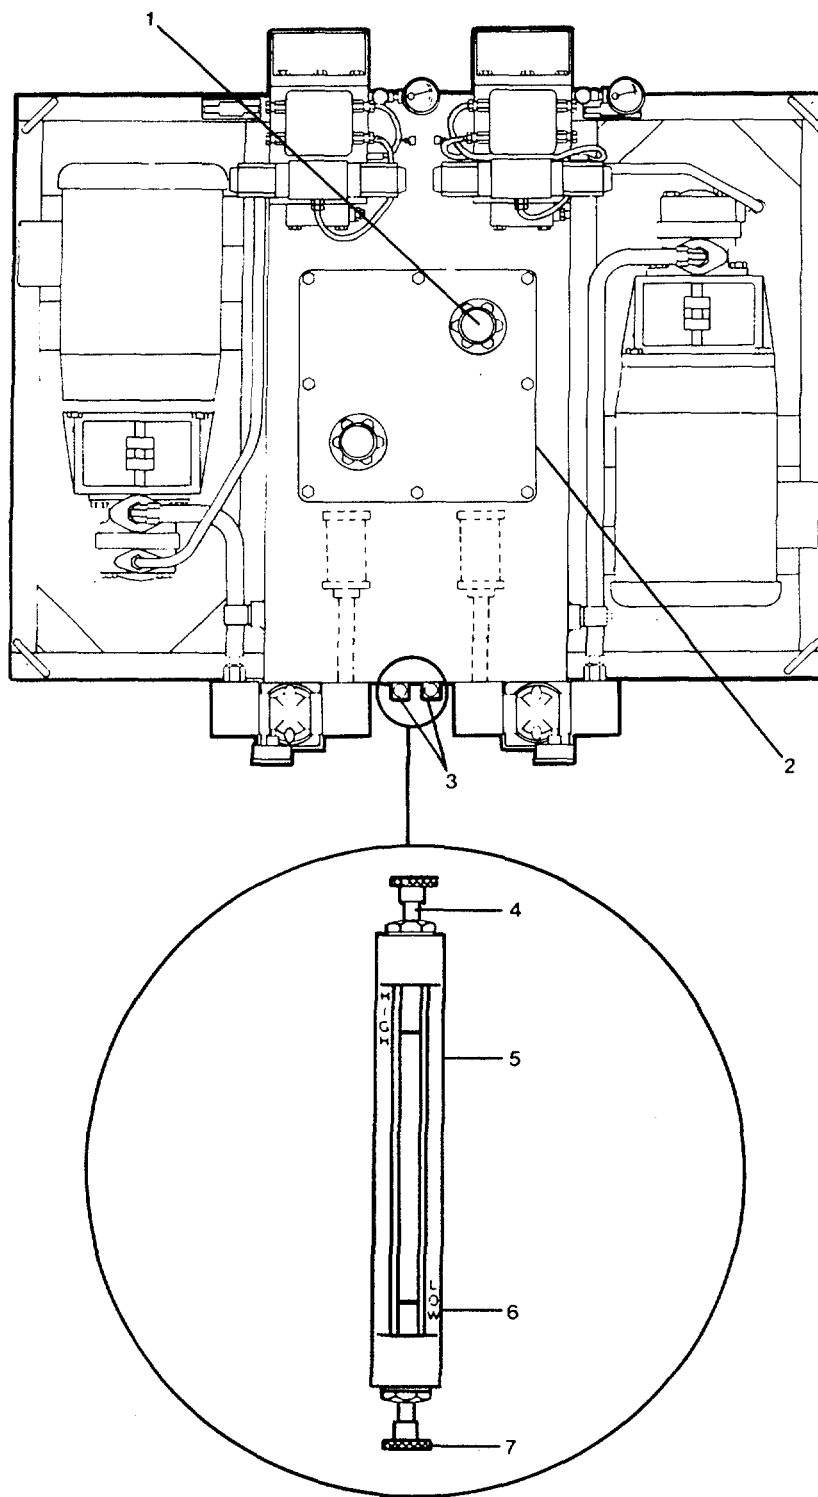
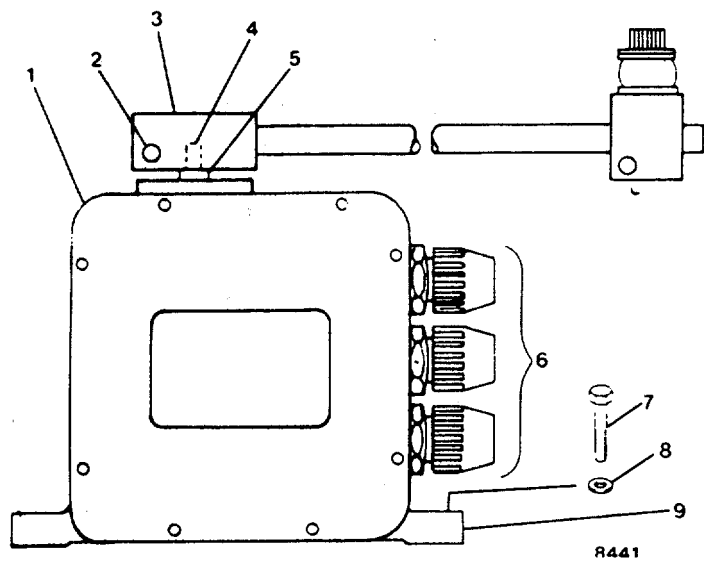

FIGURE 2-1. Reservoir Sight Gauge.
FIGURE 2-2. Followup Unit.
**2-10. Service Steering Gear System. (FIGURE 2-1)**
- (1) Check that hydraulic oil is clear and free of water or other contamination.
- (2) Check the pullout level indicator. gauge (3) on the side of the pumpset reservoir. See FIGURE 2-1.
- (3) Any unusual heating of the oil should be checked. After a while, oil that is too hot will reduce the efficiency and cause o-rings and other seals to fall apart.
- c. Fill. Remove filler cap (1, FIGURE 2-1) from hydraulic reservoir cover (2, FIGURE 2-1). Fill main reservoir and header tank with clean, filtered hydraulic fluid. See TM 55-1905-223-10.
- (1) Restore power to pumpsets.
- (2) Operate each vane pump, stroking cylinders several times back and forth with each pump. While stroking, unscrew fittings at cylinder slightly until air is removed and only oil seeps out. Secure fittings. Observe pressure gauge and check for leaks.
- (3) To bleed helm pump, unscrew fittings on pump until oil seeps out. Stroke cylinders several times while monitoring header tank fluid level. Secure fittings and close helm pump shutoff valves.
- (4) Re-check and fill hydraulic fluid levels in main reservoir and header tank to proper levels.
- (5) Check for system leaks.
- (6) Return pumpsets to normal operation (TM 55-1905-223-10).
- (7) Properly dispose of used hydraulic fluid and spillage.
- (8) Clean and store utility pail and funnel.
- (9) Remove "Out of Service Do Not Operate" tag from circuit breaker.
**2-11. Replace Followup Unit. (FIGURE 2-2)**